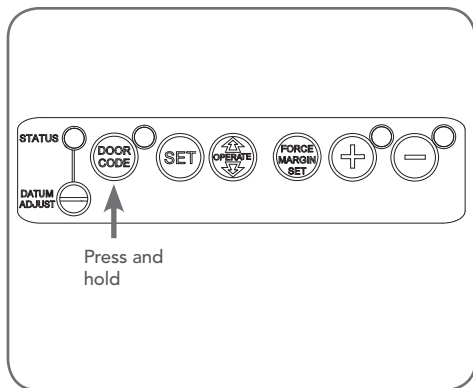

Fig. 8.3
- Press and hold the DOOR CODE BUTTON (**Fig. 8.3**).